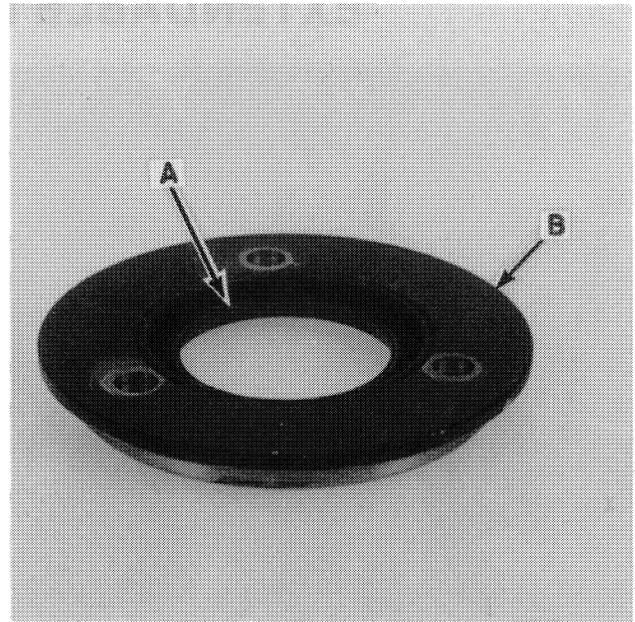

FIGURE 2-20
4. Install a new lip seal, A, Figure 2-20, in head cap, B. Make sure the lip on the seal faces out.